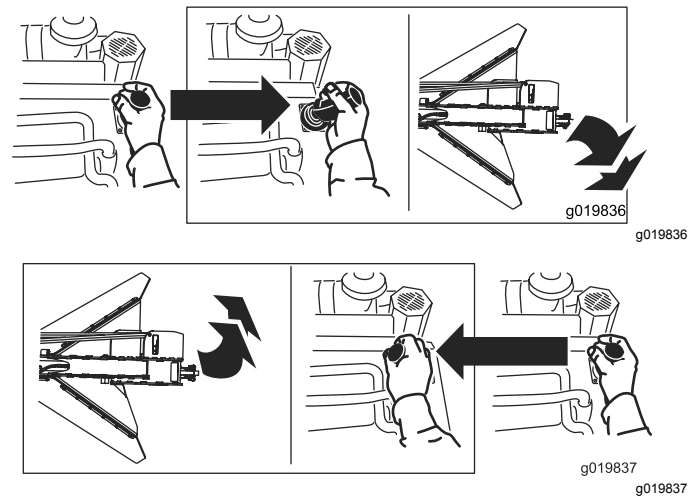

Figure 15
- To rotate the grinder to the right or left, move the lever in the desired direction (Figure 15).